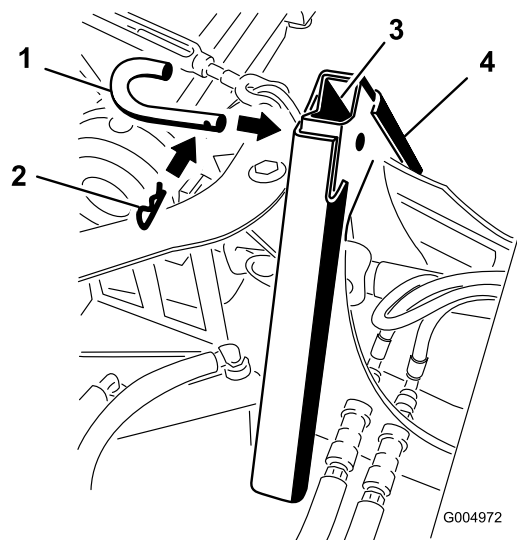

Figure 55
4. Secure the adapters together with the attachment pin and hairpin cotter as shown in Figure 55.